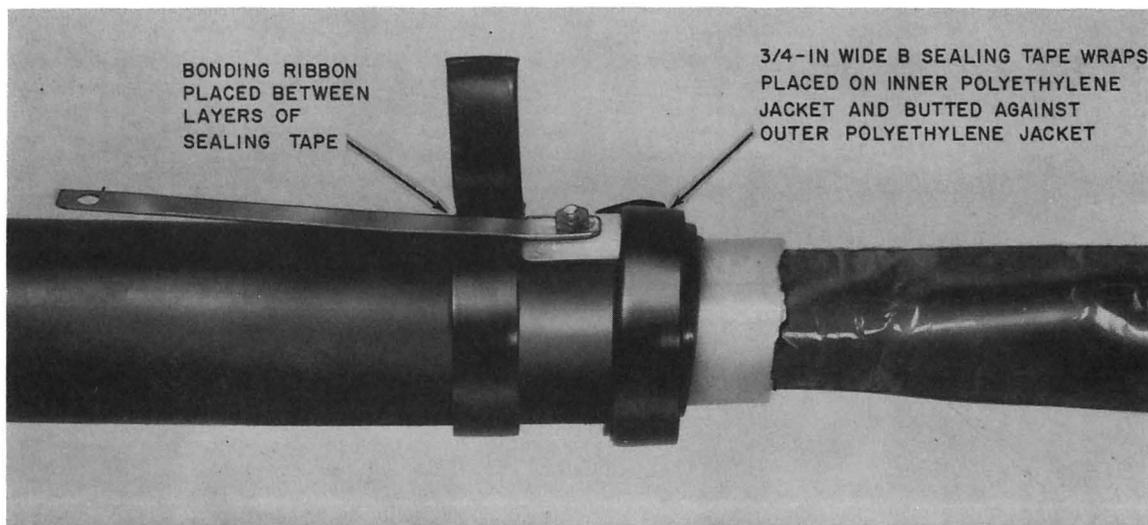

Fig. 7—B Sealing Tape (3/4-Inch Wide) Placed at Each End of Bond Clamp
5.01 Wrap 3/4-inch wide B sealing tape around sheath at each end of bond clamp as shown in Fig. 7. Feather the leading edge of B sealing tape and build up above bond clamp level.